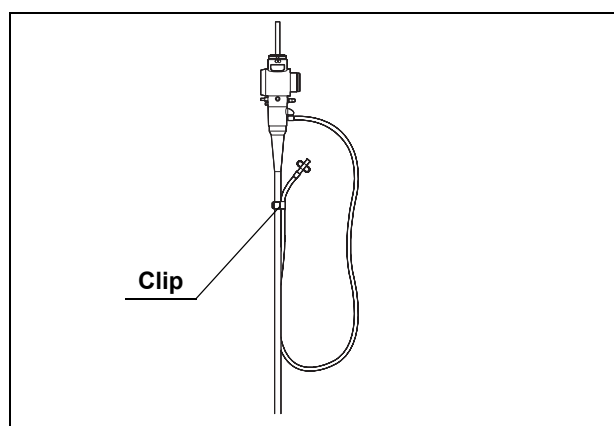

Figure 4.6
2. When carrying the endoscope with the auxiliary water tube connected to the auxiliary water inlet, attach the clip of the auxiliary water tube to the universal cord (see Figure 4.6 for GIF-H260Z only).